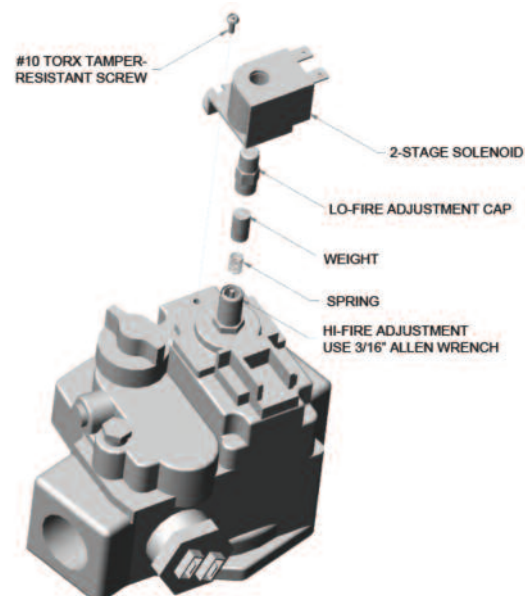

Fig. 39: 2-Stage Gas Valve Adjustment (Invensys)
5. Using a 3/8" wrench, carefully remove the aluminum cap that was under the solenoid valve-count # of turns when removing the cap. Be careful not to drop the cylinder (weight) or the small spring that is under the cap –see Fig. 39.
7. Using an Allen wrench, turn the screw clockwise to increase or counterclockwise to decrease high fire manifold pressure –see Fig. 39.